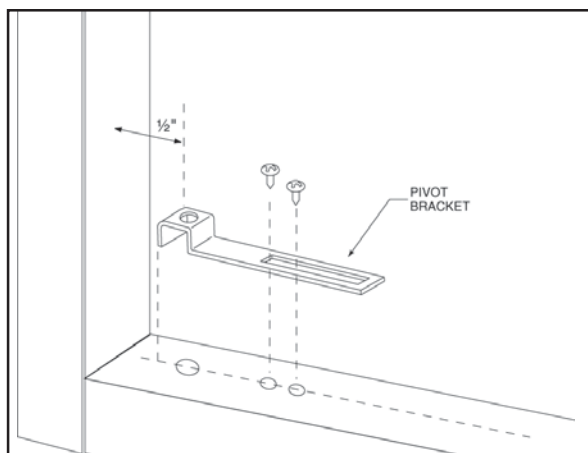

Figure 2 - Attach Pivot Bracket
2. Attach the pivot bracket to the lower front face with the center of the hole approximately 1/2" from the side column. Tighten with two screws on each bracket. See Figure 2.